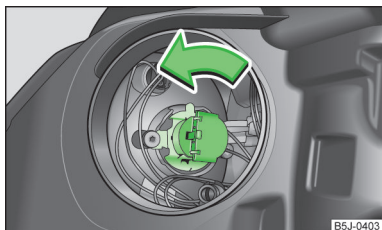

Fig. 164
- Turn the socket with the bulb to the stop in the direction of the arrow » Fig. 164 and remove it.